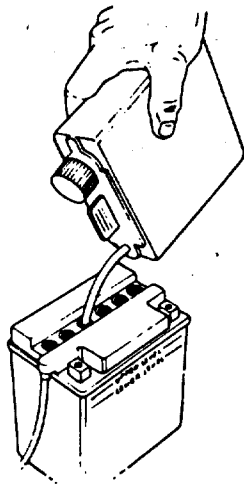

FIGURE 2.
6. Fill each battery cell slowly and carefully to the UPPER LEVEL line marked on battery. See figure 2. Use caution as the acid level will rise rapidly after the bottom of the cell is filled.